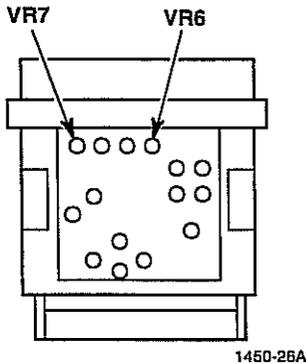

Figure 3-21.
- b. Adjust VR6 (Figure 3-21) for  $1.50 \text{ VDC} \pm 0.05 \text{ VDC}$ .
- b. Adjust VR7 (Figure 3-21) for  $1.50 \text{ VDC} \pm 0.05 \text{ VDC}$ .